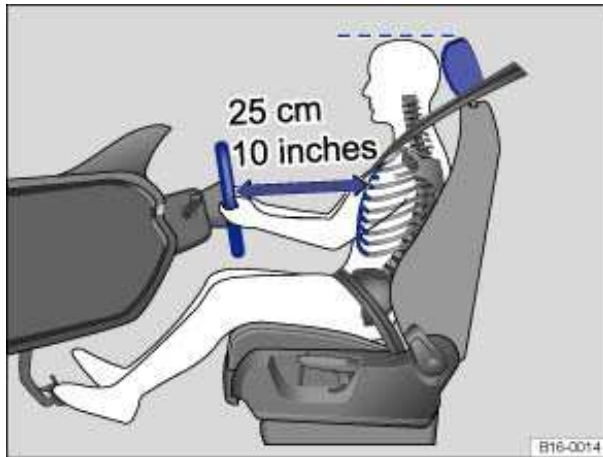
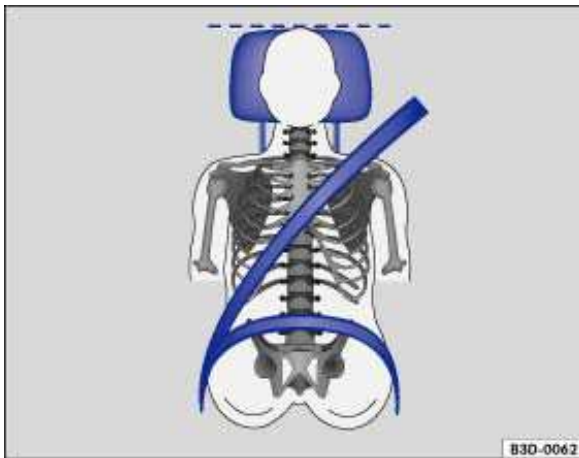

Fig. 52 The driver should never sit closer than 10 inches (25 cm) of the steering wheel.
Fig. 53 Proper safety belt positioning and head restraint adjustment.
- Adjust head restraints so that the upper edge of the head restraint is at least at eye level or higher. Position the back of your head as close as possible to the head restraint ⇒ fig. 52 and ⇒ fig. 53.
- Adjust the steering wheel so that there are at least 10 inches (25 cm) between the steering wheel and your breast bone ⇒ fig. 52. When adjusting the proper distance to the steering wheel, grasp the top of the steering wheel with your elbows slightly bent.